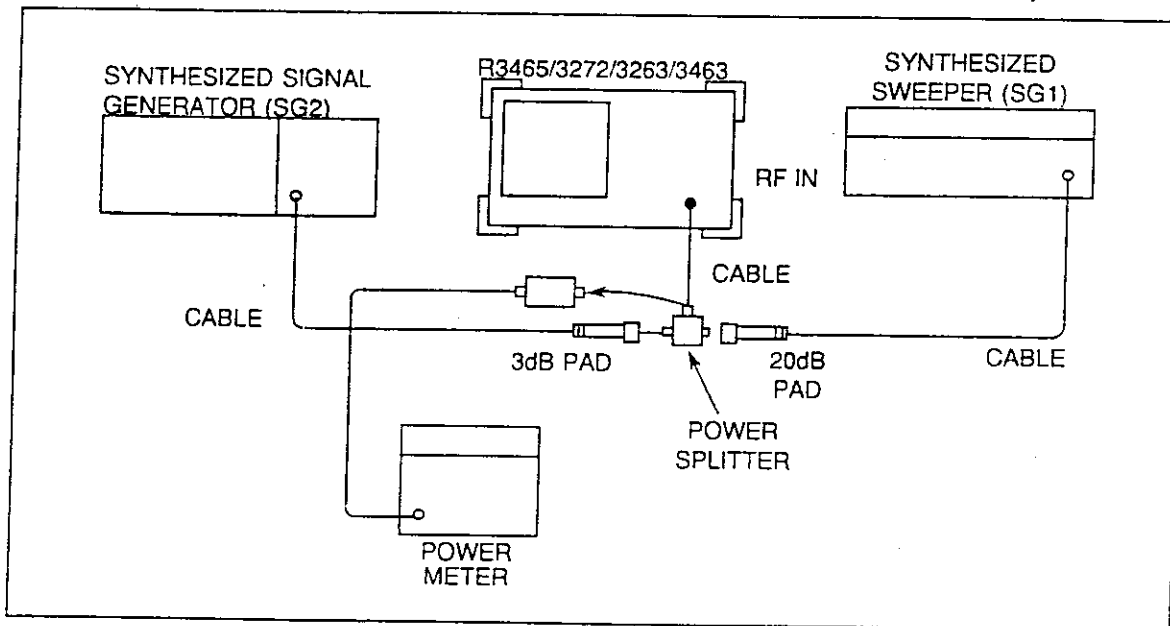

Figure 1-8 Gain Compression Test Setup
- (1) Zero and calibrate the power meter.
- (2) Connect the equipment as shown in Figure 1-8.
- (3) Press the INSTR PRESET by on both the SG1 and the SG2.